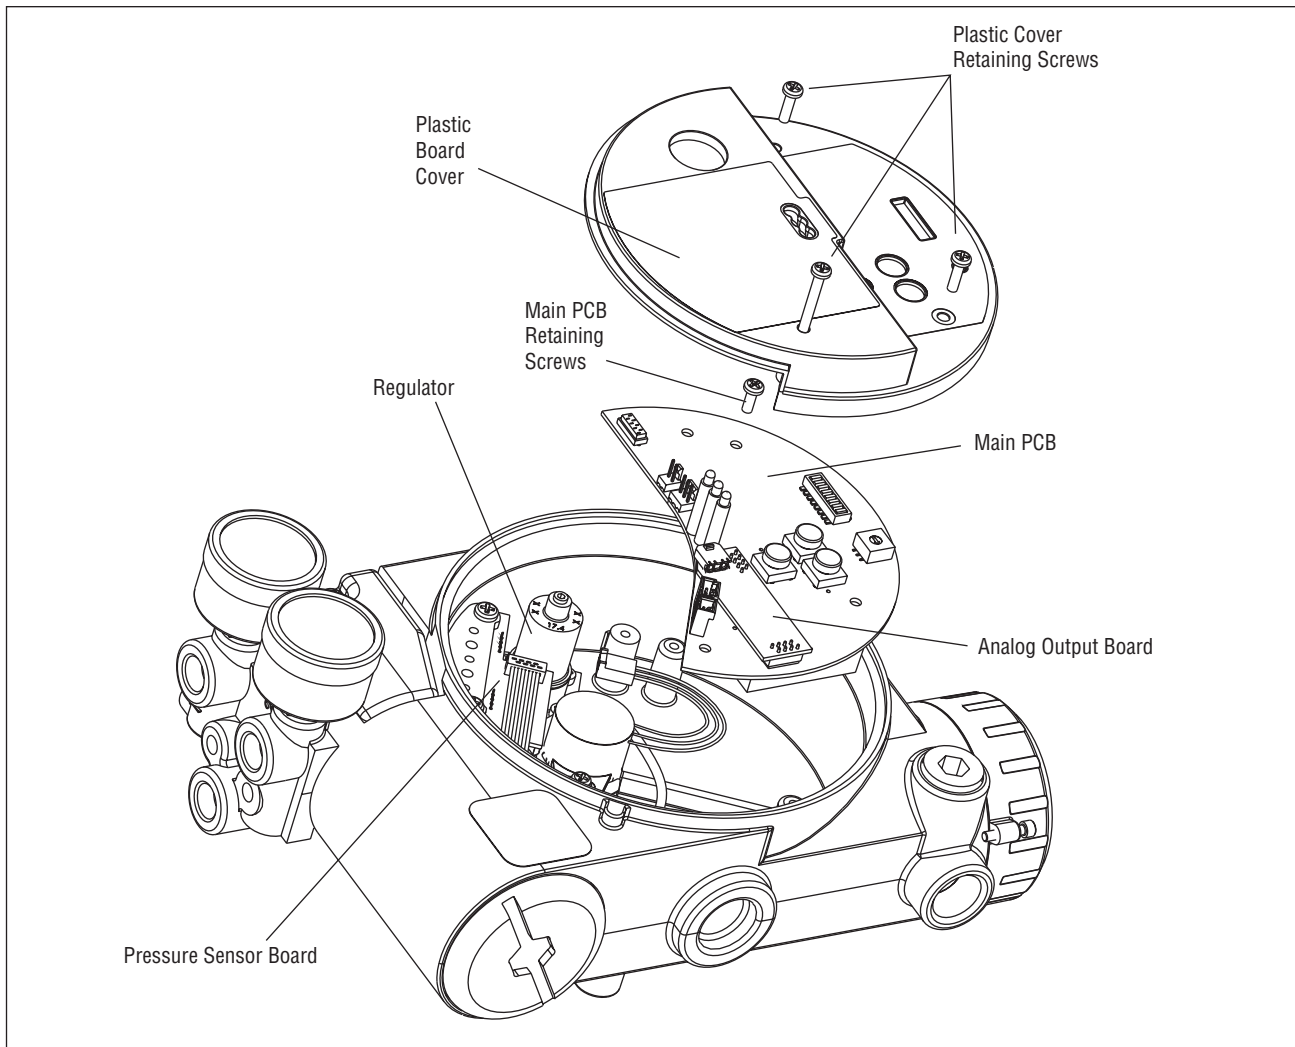

Figure 18: Main PCB Assembly
29. Install the plastic board cover. Insert the three retaining screw through the plastic cover into the threaded boss and tighten evenly, using a Phillips screwdriver. Do not overtighten (see Figure 18).
4. Remove the plastic board cover by removing the three retaining screws (see Figure 18).
13. Install the plastic board cover. Insert the three retaining screws through the plastic cover into the threaded boss and tighten evenly, using a Phillips screwdriver. Do not overtighten (see Figure 18).
9. Install the plastic board cover. Insert the three retaining screws through the plastic cover into the threaded boss and tighten evenly, using a Phillips screwdriver. Do not overtighten (see Figure 18).
To replace the stem position sensor, refer to Figure 18, 21 and 28 and proceed as outlined below. The following tools are required: